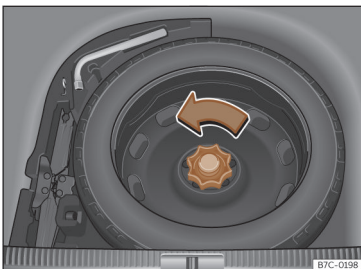

Fig. 222 In the luggage compartment: raised load floor.
- Turn the thumb wheel anticlockwise >>> Fig. 222.